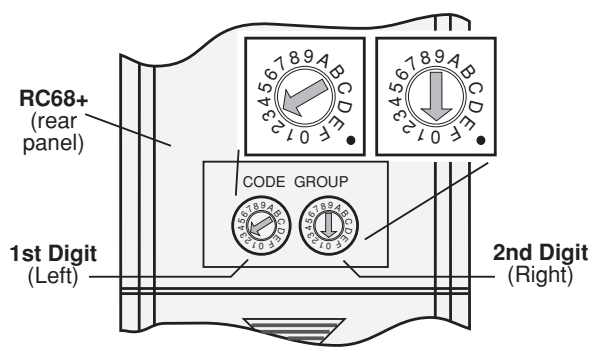

FIG. 6 Setting the code switches to the newly changed code. Refer to step 6. (**30** shown for MIRV1/RAT1).
- Test the system by rotating each of the Code Group Setting Switches on the rear of the RC68+ to the chosen code number (refer to **Fig. 6**). The Left switch is the first digit in the number and the Right one is the second digit.
Be sure to change the Code Group Setting Switches on the rear of the RC68+ (Fig. 6) to match the newly changed code number you set for each device, during the teaching process.